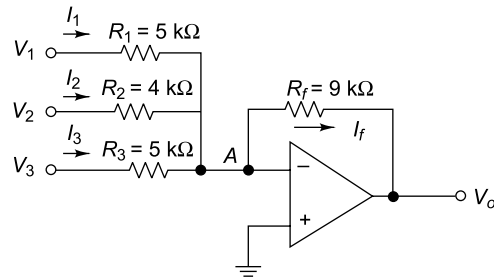

Fig. 5.88
24. An operational amplifier circuit is shown in Fig. 5.88. Determine the output voltage V_o and current flows through R_1 , R_2 , R_3 and R_f . Assume $V_1 = 3 \text{ V}$, $V_2 = -5$ and $V_3 = 2 \text{ V}$